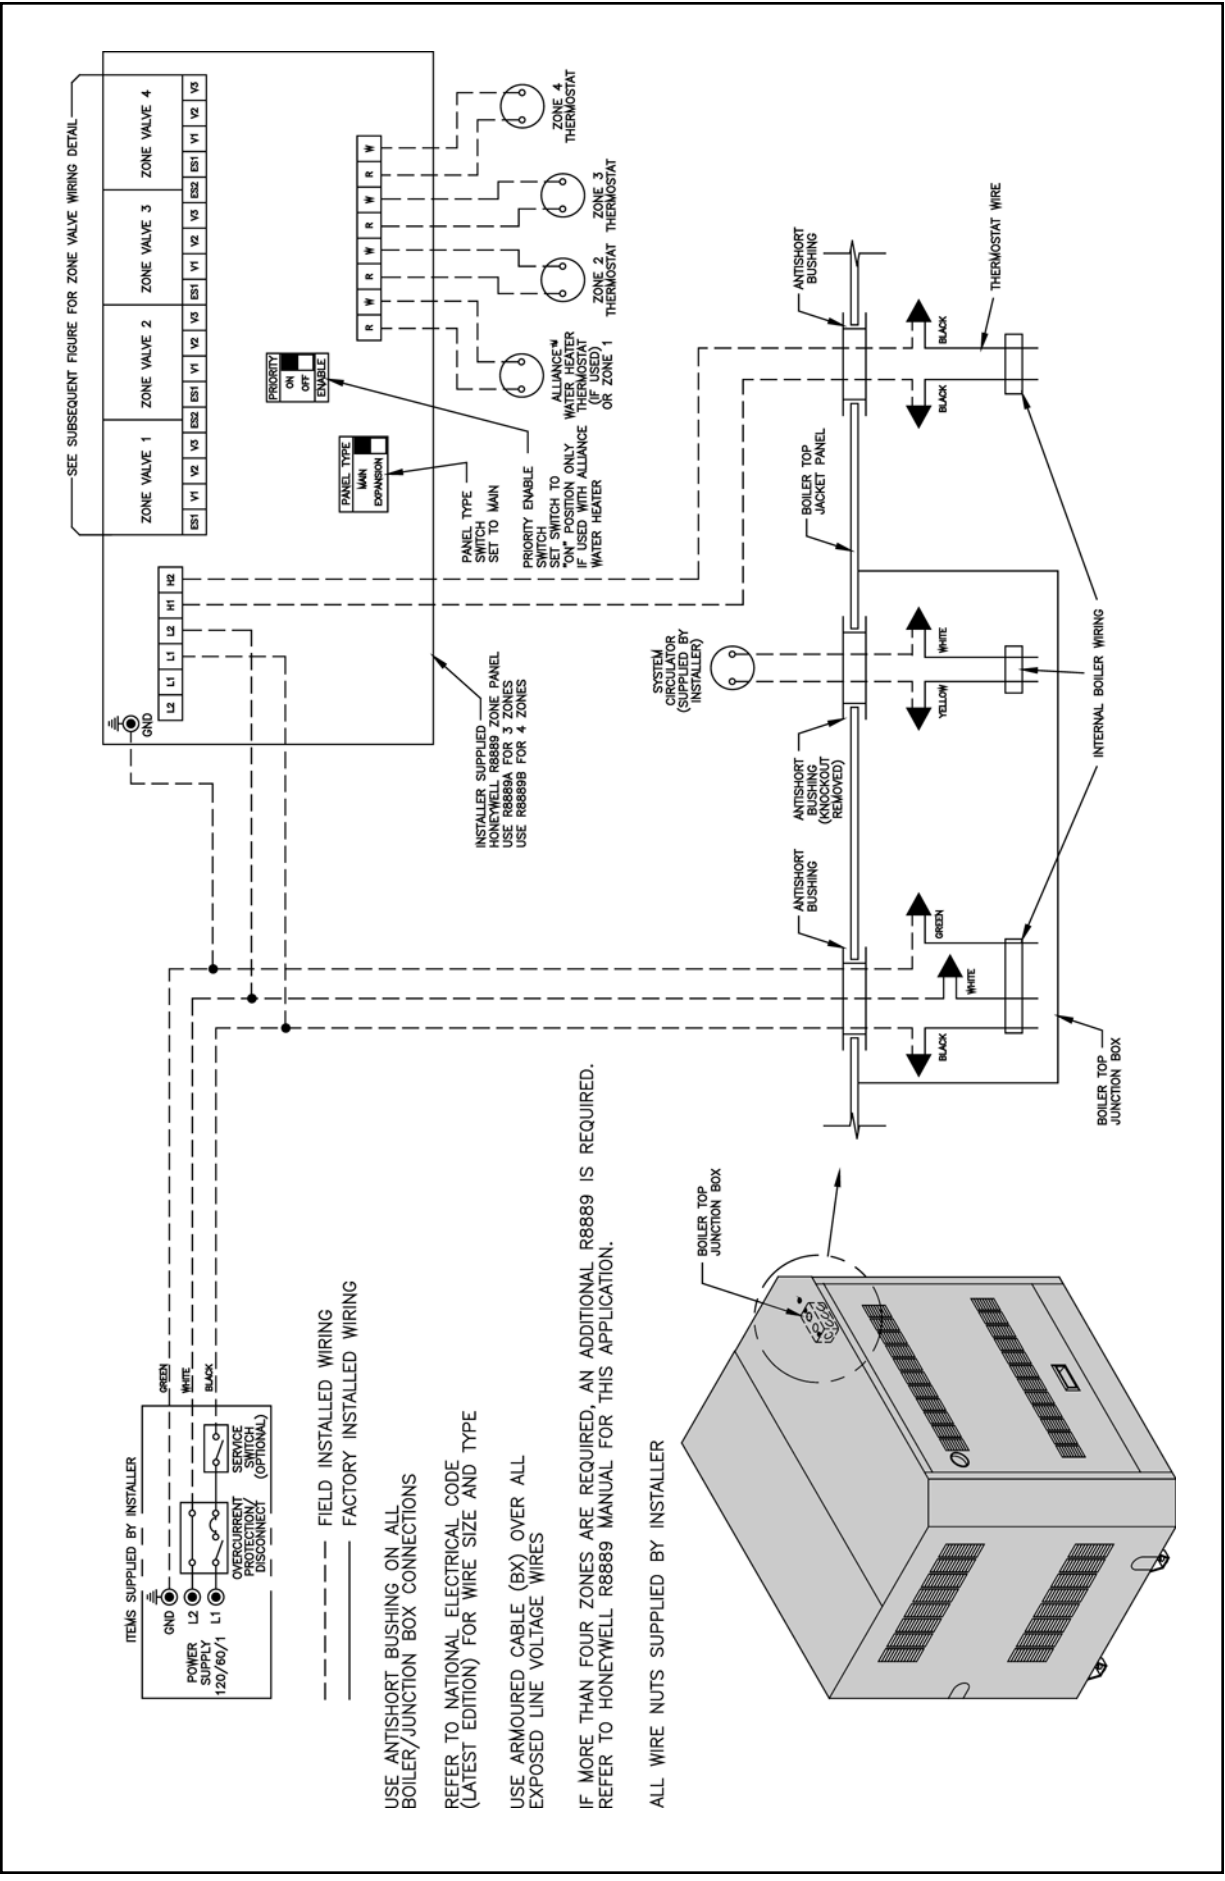

Figure 36: Zone Valve Zoned System Wiring Schematic
8. Conventional Zone Valve Zoned System – Refer to Figure 36. If a system water temperature limit is used, refer to Figure 37. Wiring to the most popular models of zone valves is given in Figure 38.